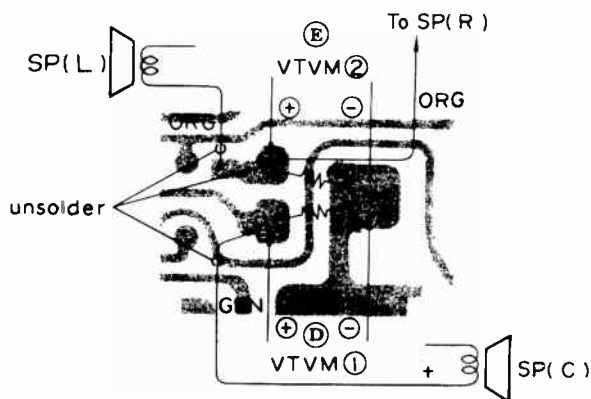

Fig. 3-17. VTVM connection
6. Solder 4Ω-resistor and 8Ω-resistor as shown in Fig. 3-17.